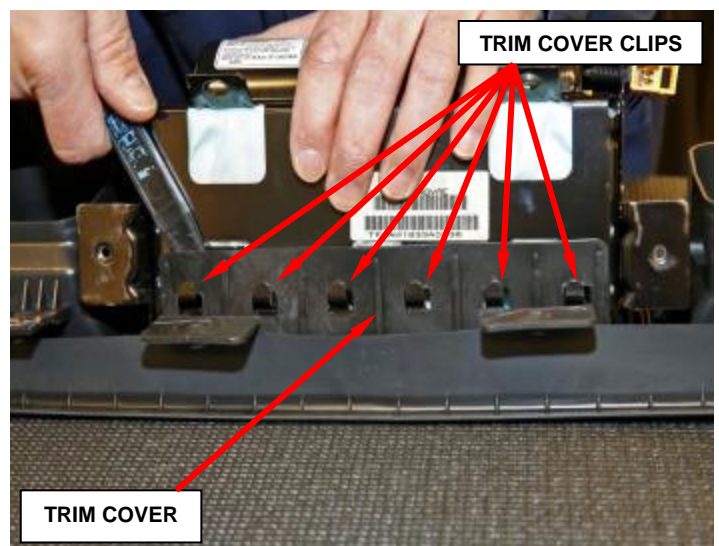

Figure 18 – Trim Cover Clips
- b. Disengage the trim cover clips and remove the airbag module from the trim cover (Figure 18).